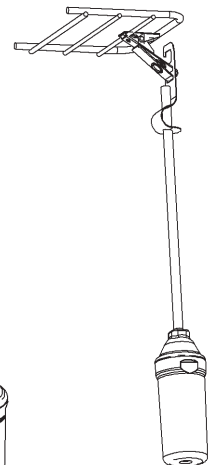

Fig. 35: Probe Clip Hanger used on a wire shelf
- Walk-in freezer/cooler measurements require that the Blü-Test probe be placed in or around the product racks and not near the door. Do not let the probe tip touch the rack. The probe will require more time to stabilize due to the larger differential between room temperature and freezer/cooler temperature. Keep the probe in place for 15 to 20 minutes or until the reading stabilizes. The Probe Clip Hanger accessory makes this easier by holding the probe for you (Fig 35).